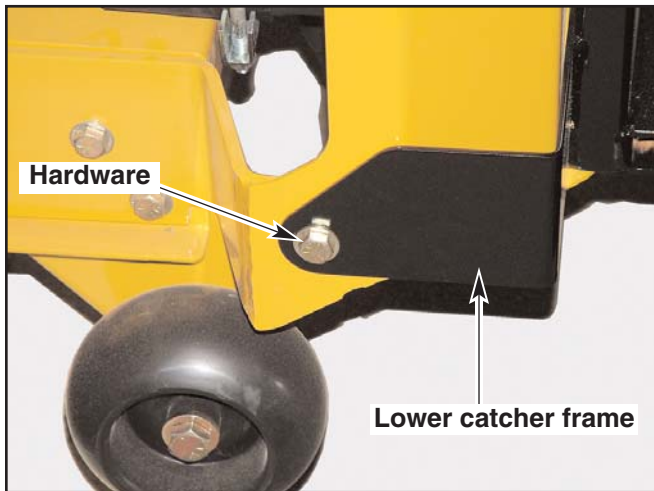

Figure 4
5. Attach the catcher frame (Ref. #1) and catcher lid (Ref. #2) assembly to the tractor frame. Hook top of catcher frame over the top edge of the engine guard. Fig. 4 & 5 Use the hardware shown in Fig. 11